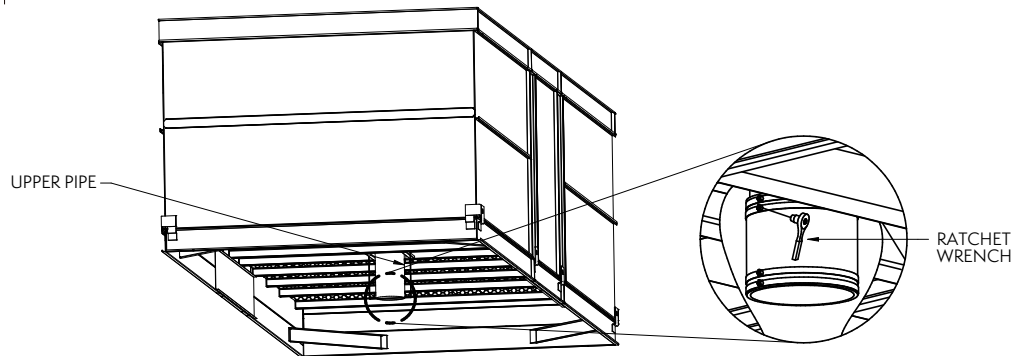

Figure 8 — Casing Bottom Inlet Piping
4. Tighten all pipe clamps. A ratchet wrench is recommended (See **Figure 8**).